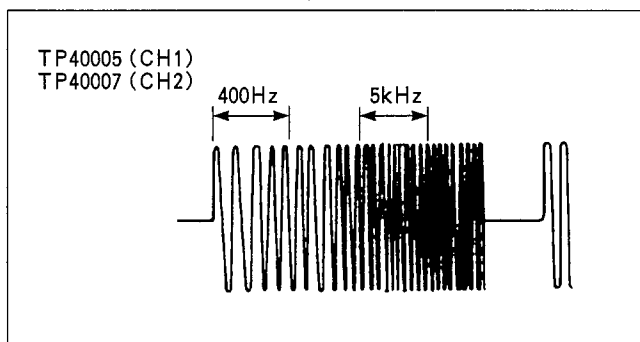

Figure E48
4. Adjust VR40002(CH1) and VR40007(CH2) so that the 400Hz and 5KHz levels become the same (0dBm ± 0.5dBm) as shown in Figure E48.